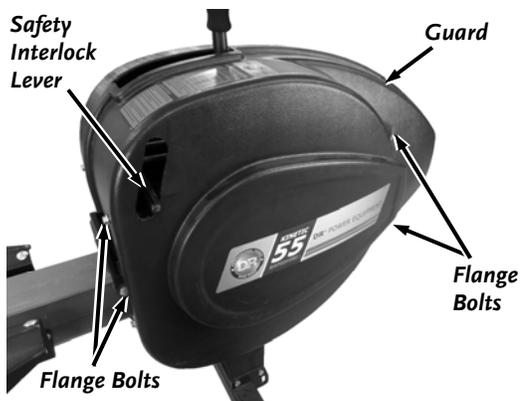

Figure 26
1. Remove the four Flange Bolts using a 9/16" Wrench and remove the left hand Guard from the Splitter (**Figure 26**).